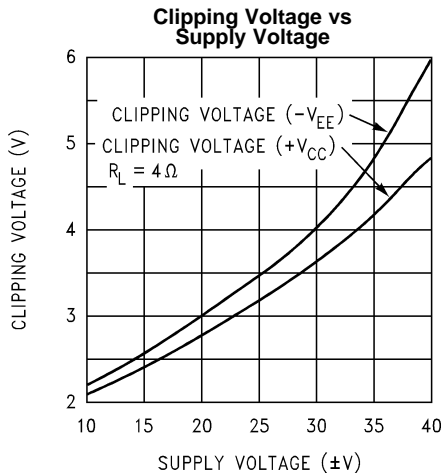

Figure 14.
- (1) All voltages are measured with respect to the GND pin (pin 7), unless otherwise specified.
- (2) Absolute Maximum Ratings indicate limits beyond which damage to the device may occur. Operating Ratings indicate conditions for which the device is functional. Electrical Characteristics state DC and AC electrical specifications under particular test conditions and specific performance limits. This assumes that the device is within the Operating Ratings. The typical value is a good indication of device performance.
- (3) Typical values are measured at  $25^\circ\text{C}$  and represent the parametric norm.
- (4) Limits are specified to AOQL (Average Outgoing Quality Level).
- (5)  $V^-$  must have at least  $-9\text{V}$  at its pin with reference to ground in order for the under-voltage protection circuitry to be disabled.
- (6) AC Electrical Test; refer to Test Circuit #2 - AC Electrical Test Circuit.
- (7) The feedback compensation network limits the bandwidth of the closed-loop response and so the slew rate will be reduced due to the high frequency roll-off. Without feedback compensation, the slew rate is typically larger.
- (8) DC Electrical Test; refer to Test Circuit #1- DC Electrical Test Circuit.
- (9) The output dropout voltage is the supply voltage minus the clipping voltage. Refer to Figure 14 in Typical Performance Characteristics.